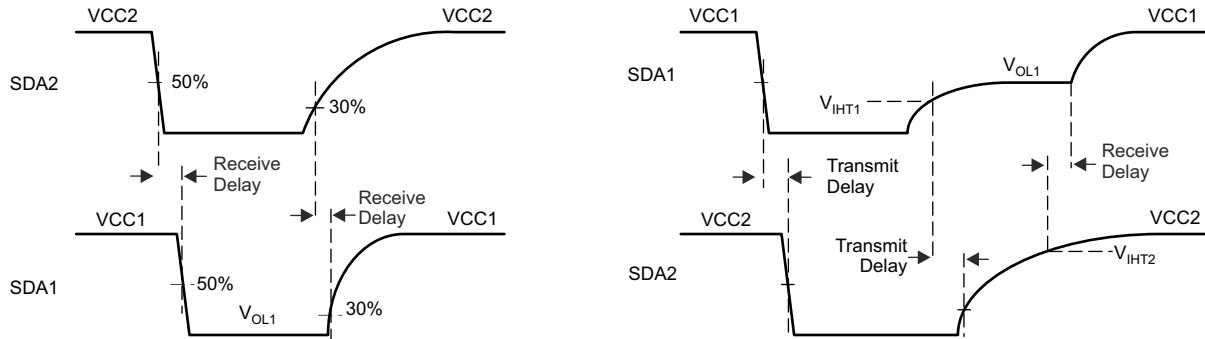

Figure 8-3. SDA Channel Timing in Receive and Transmit Directions
Figure 8-3 demonstrate the switching behavior of the I²C isolator, ISO164x-Q1, between a master node at SDA1 and a heavily loaded bus at SDA2.
8.5.1 Receive Direction (Left Diagram of Figure 8-3)
8.5.2 Transmit Direction (Right Diagram of Figure 8-3)